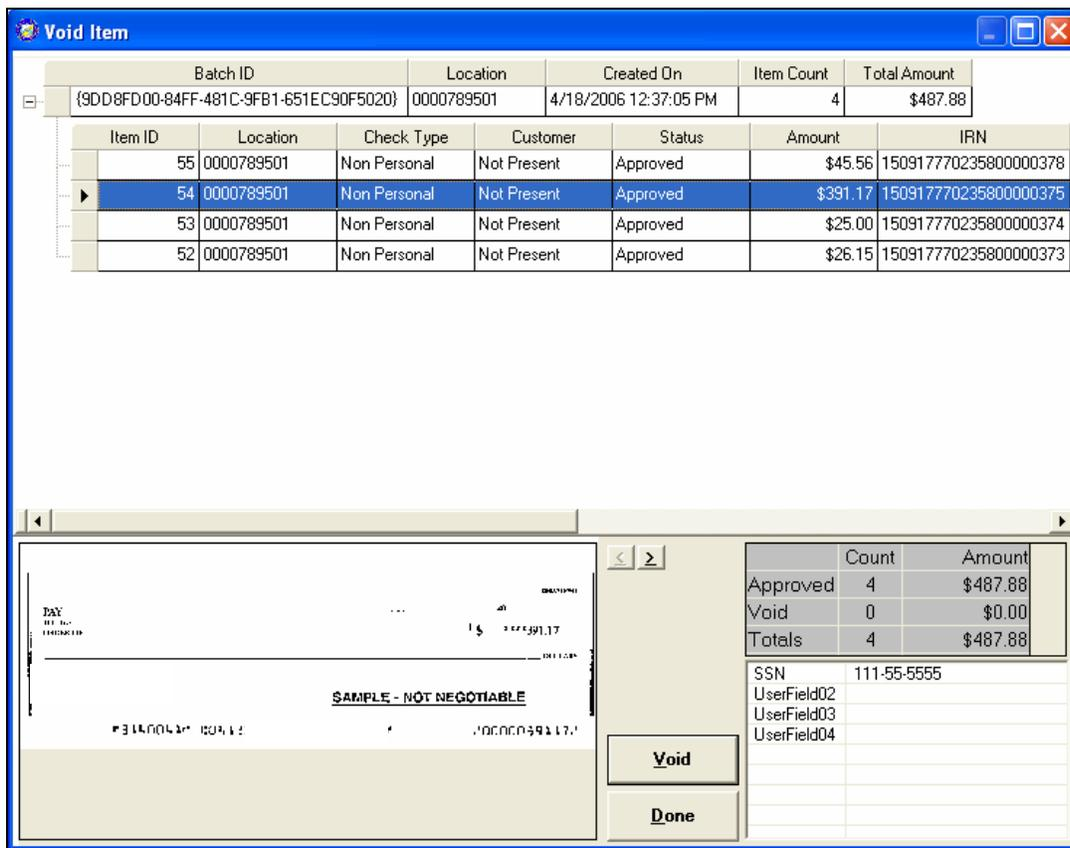

Figure 6.49
2. Click the ‘+’ on the left side (circled) to expand the view and see all details of the items within the batch (Figure 6.49)